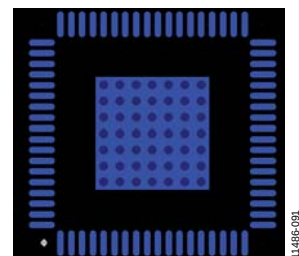

Figure 85. Exposed Pad Layout Example—Top View
- Place vias such that all layers of copper are connected, allowing efficient heat and energy conductivity. See Figure 85, which shows 49 vias arranged in a 7 $\times$ 7 grid in the pad area.